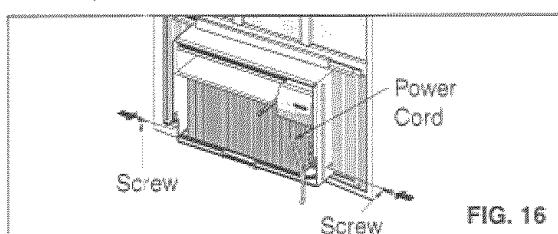

FIG. 16
- 15** Slide the chassis into the cabinet. (FIG. 16)